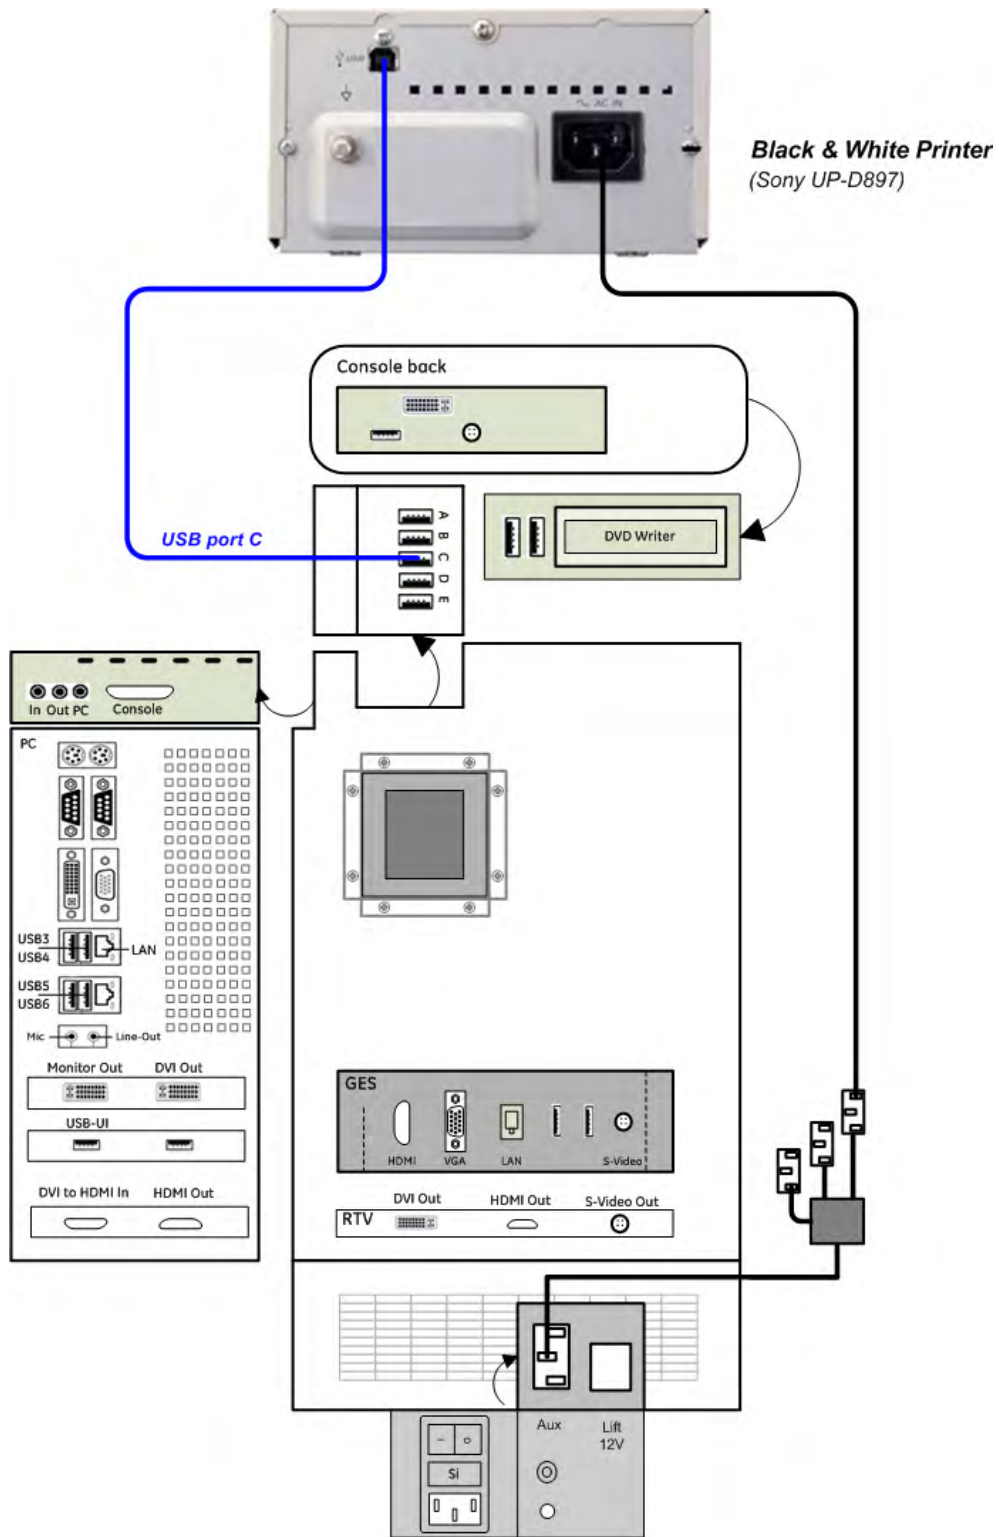

Figure 3-3 B&W Printer connection
2. Connect the Black & White printer according to connection scheme, see: Figure 3-3 on page 3-12.